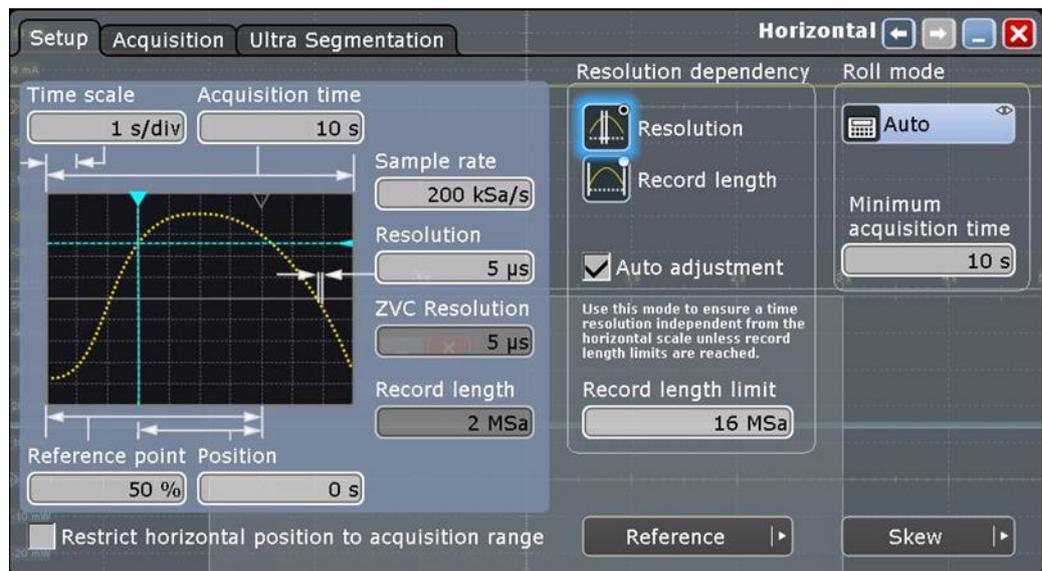

Figure 4-2: Data Acquisition Setup on the RTO
2. Next select *Horizontal* -> *Setup* and Configure as shown in Figure 4-2